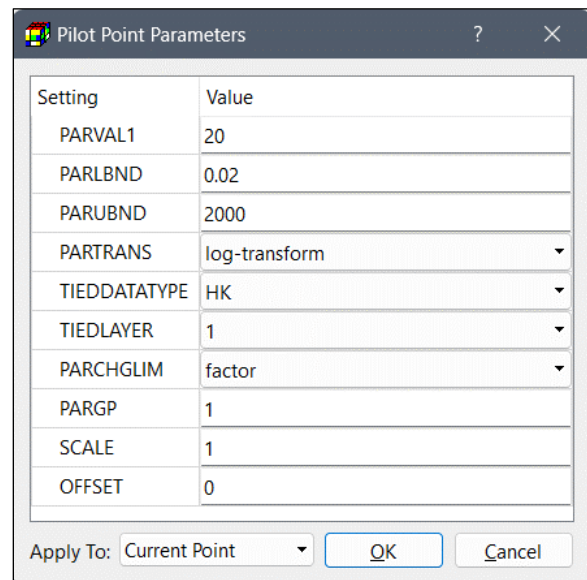

Figure 29. The Pilot Point Parameters dialog box
- Select *Edit Pilot Point Data* to open the Pilot Point Parameters dialog box (Figure 29).
- Select *Edit Pilot Point Data* to open the Pilot Point Parameters dialog box (Figure 29). These values are used in conjunction with PEST, see Section 3.9.5.2 for details. You